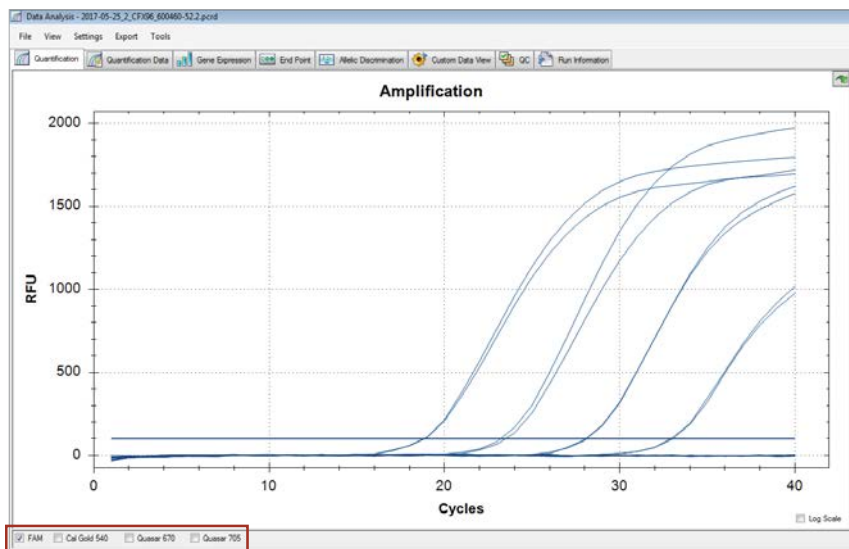

Figure 5. The Amplification plot on the Quantification tab in the DNA Analysis window.
- a. Uncheck the CalGold 540, Quasar 670 and Quasar 705 boxes under the Amplification Chart (Figure 5). Keep FAM checked.